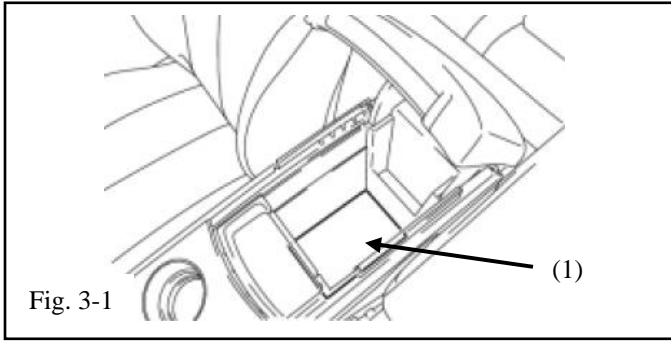

Fig. 3-1
- (a) Open Upper Console Box Cover and remove the console box carpet (1). (Fig. 3-1)